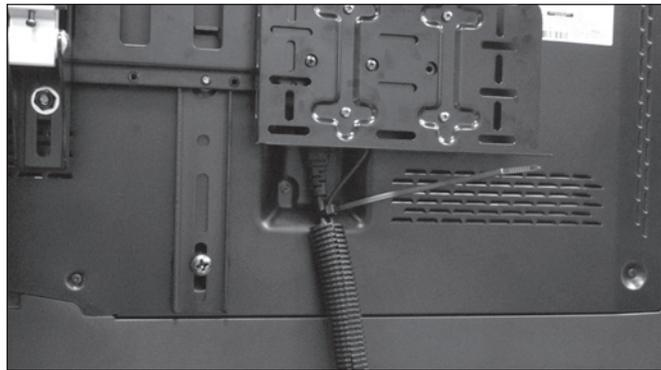

Figure 14: Inserting PC Power Cord and Display Monitor Cord (example only)
8. With the second piece of wire loom, open the split seam on the wire loom and insert in the PC Power Cord and Touchscreen Display Monitor Power Cord. See Figure 14.